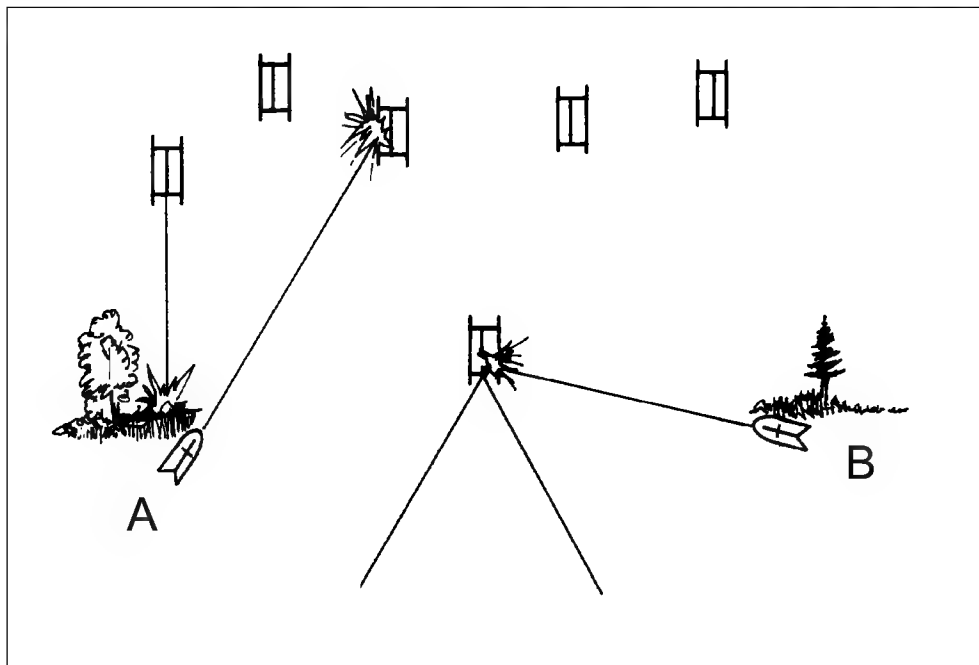

Figure 8-3. Engagement of the enemy with flank or rear shots.
(1) From an oblique weapon position, a gunner can provide frontal cover to protect against direct suppressive fires. An oblique position also helps to conceal his location from the view of any person or vehicle approaching from the front (A, Figure 8-3).
(2) In the attack, a tank orients firepower and observation mainly to the front. This helps keep the tank from detecting the launch site (B, Figure 8-3).